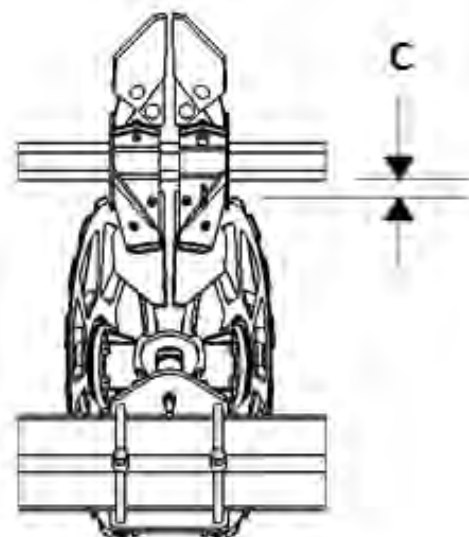

Figure 7-16: Paddle Shaft to Lifter Wheel Rim Dimension
CAUTION: When the harvester is equipped with rock struts, the distance (C), shown in figure 7-16, between the lifter wheels and paddle shaft must have at least 1 inch. (2.5 cm) of clearance to protect the paddle shaft from the lifter wheels in the event of contact with a rock.